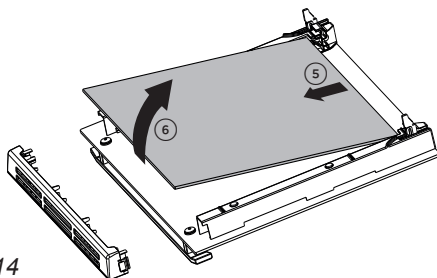

Fig. 4.14
- Gently lift and pull out the middle pane of glass by releasing it from the bottom retaining notches (fig. 4.14).